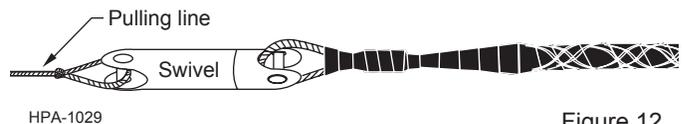

Figure 12
**4.11** Connect the pulling eye to the appropriate ball bearing swivel and pulling tape (Figure 12). The grip installation is now ready for the cable pull.